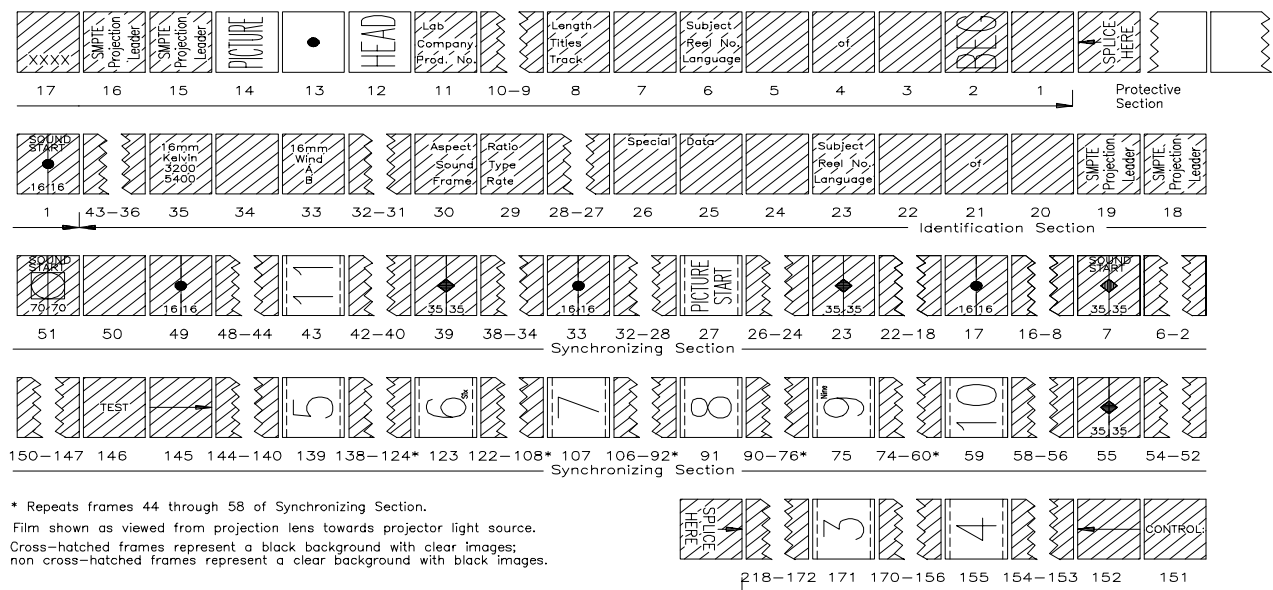

Figure 1 – Head leader
4.2 Information appearing in the leader which is printed lengthwise (in the direction of film travel) shall read from left to right when viewed from the projection lens towards the projector light source with the head end of the film at the right. Information appearing in the leader which is printed upright shall read normally when the reel is uppermost and the head of the film hangs down ready for threading (see figures 1 and 5 for orientation of information).
5 Head leader (see figure 1)